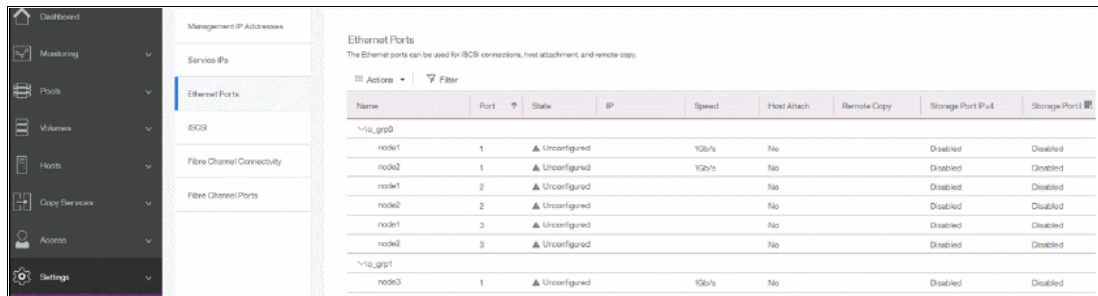

Figure 5-64 Ethernet ports settings
1. Navigate to **Settings** → **Network** and select **Ethernet Ports**, as shown in Figure 5-64.